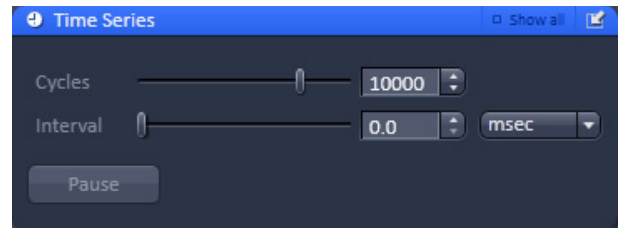

Fig. 52 Time series
- Open the **Time Series** tool in the **Left Tool Area** (Fig. 52).